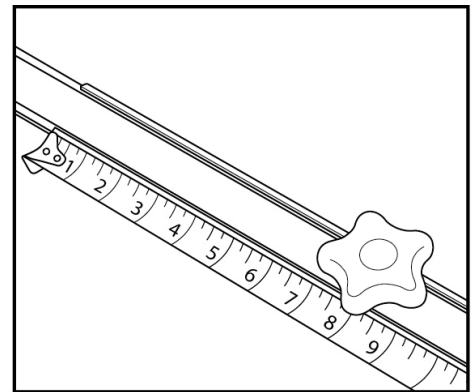

Fig.27
1. Thread the plastic tightening knobs into the holes on the Awnbrella arms. Extend one Awnbrella arm and measure from the pointed tip end so that the knob is approximately 8 inches from the end of the C-channel. Tighten the knob (Fig.27).